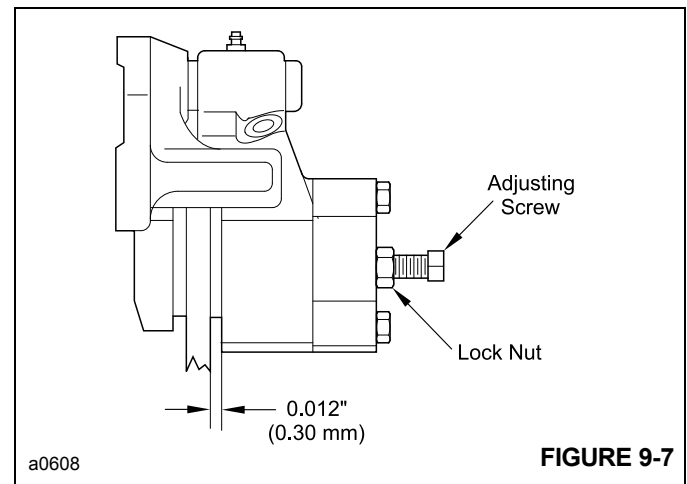

FIGURE 9-7
2. Loosen the lock nut and adjusting screw Figure 9-7.
1. Loosen lock nut and back off adjusting screw. See Figure 9-7.